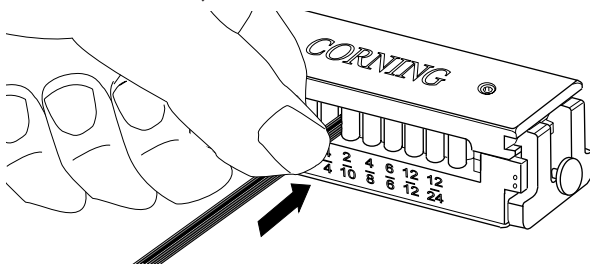

Figure 10
b. Insert the ribbon into the proper channel. Push the end of the ribbon through the tool (Figure 10).